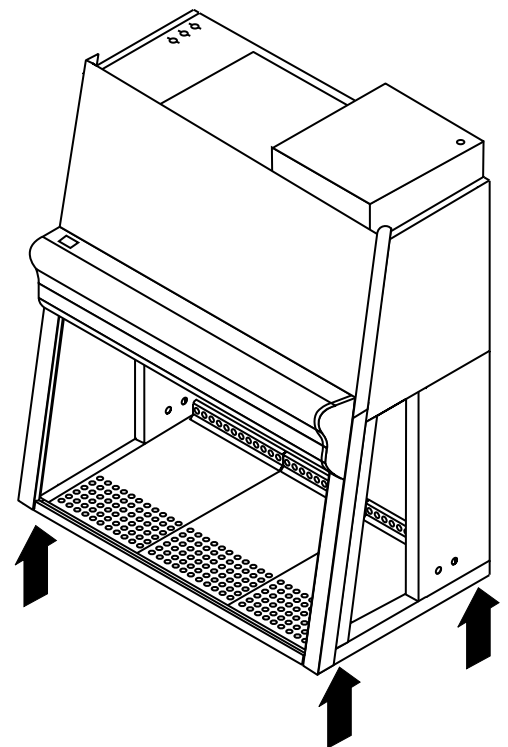

Fig. 2
**Fig. 2:** To prevent the unit from tipping, always transport using a suitable carrier, even for a transport within a building, and separate the unit from the stand.
**For transport, lift the unit only at the lift points shown in Figure 2.**